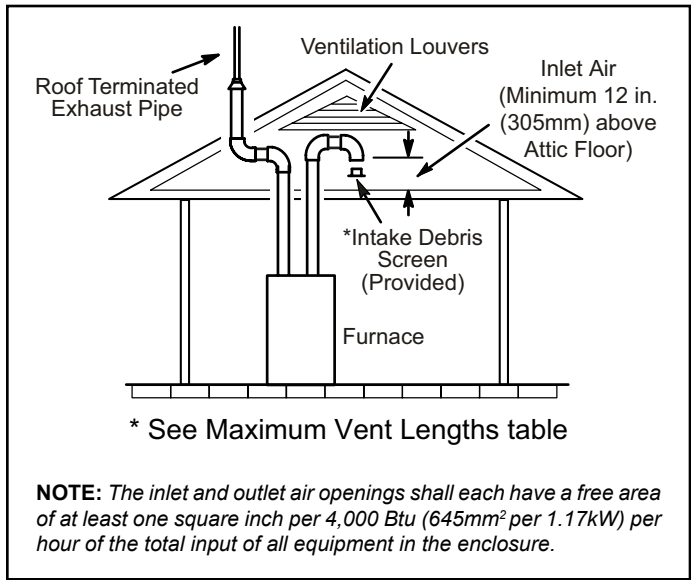
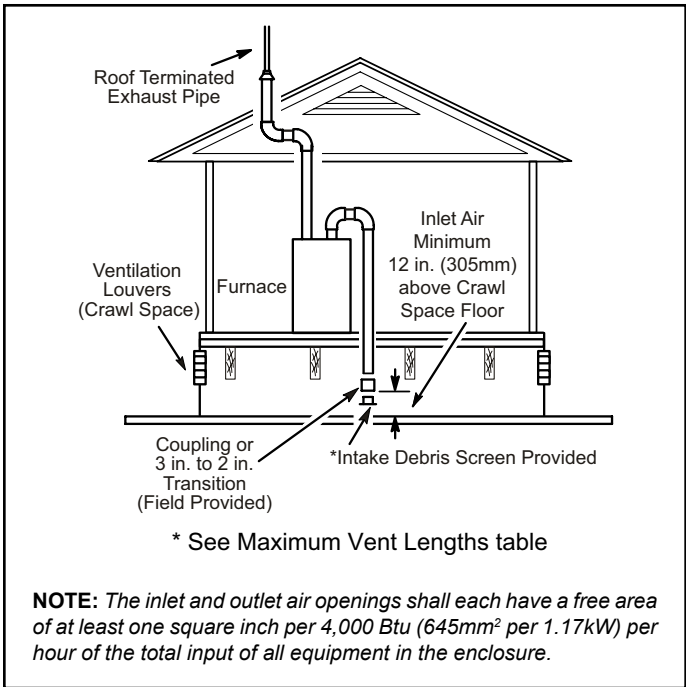

Figure 26. Equipment in Confined Space (Inlet Air from Ventilating Attic and Outlet Air to Outside)
Figure 27. Equipment in Confined Space (Inlet Air from Ventilating Crawlspace and Outlet Air to Outside)
2. If intake air is drawn from a ventilated attic (Figure 26) or ventilated crawlspace (Figure 27) the exhaust vent length must not exceed those listed in Table 7B. If 3" diameter pipe is used, reduce to 2" diameter pipe at the termination point to accommodate the debris screen.